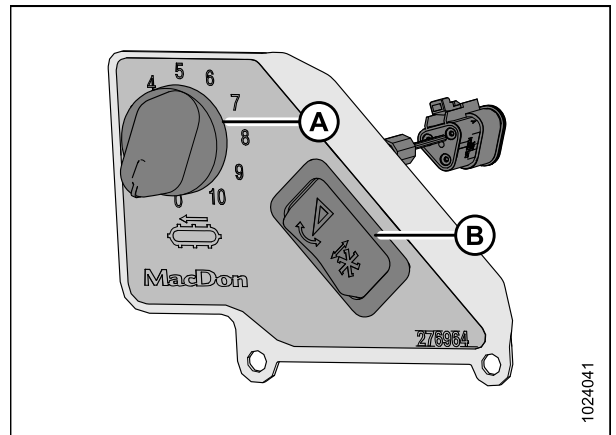

Figure 9.6: In-Cab Side Draper Speed Control
Switch (B) in Figure 9.6, page 357 allows the operator to switch between the header tilt and reel fore-aft controls.